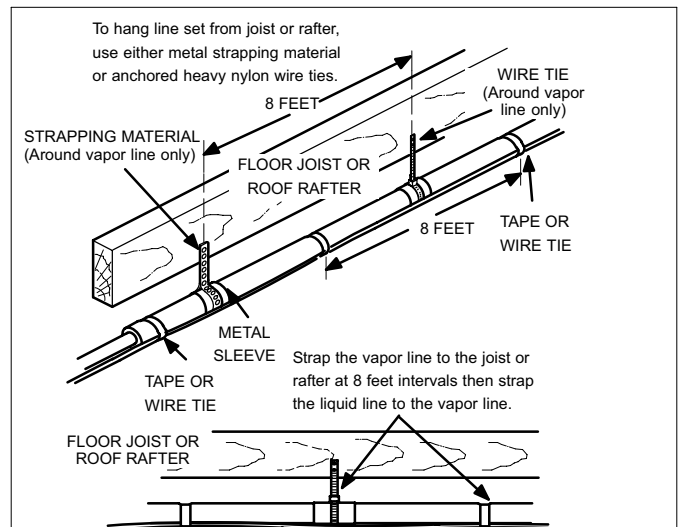
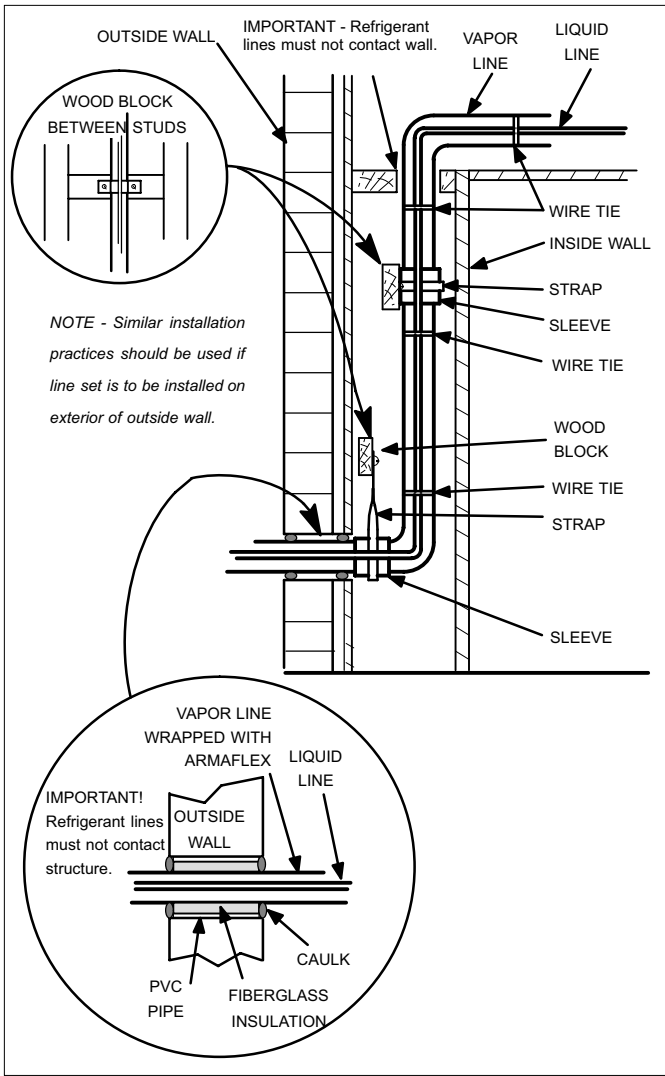
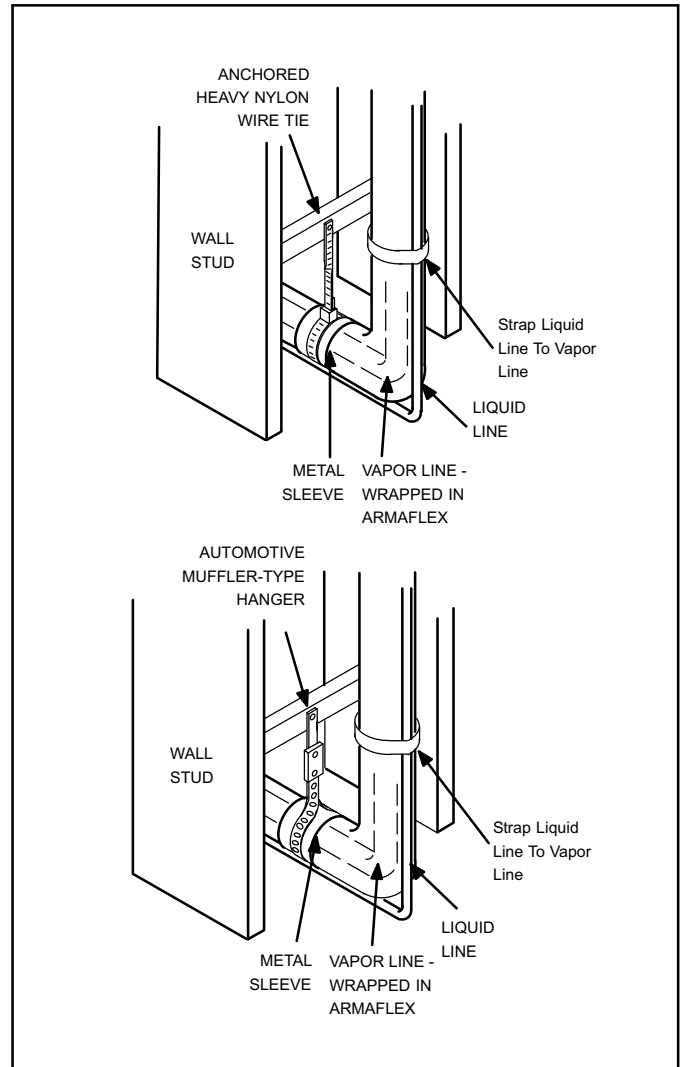

Figure 14. Refrigerant Line Sets: Installing Horizontal Runs
Figure 15. Refrigerant Line Sets: Installing Vertical Runs (New Construction Shown)
Figure 16. Refrigerant Line Sets: Transition from Vertical to Horizontal
- 2. Line Set Isolation**—The following illustrations demonstrate procedures which ensure proper refrigerant line set isolation. Figure 14 shows how to install line sets on horizontal runs. Figure 15 shows how to install line sets on vertical runs. Figure 16 shows how to make a transition from horizontal to vertical.